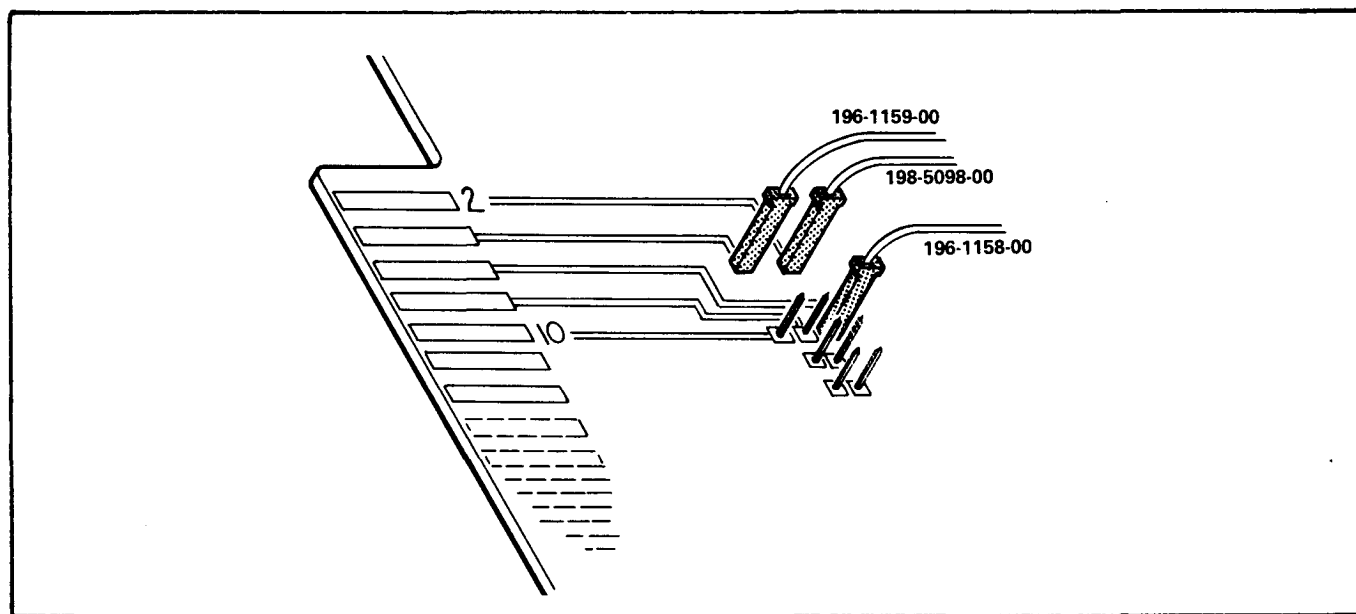

Figure 3.
- 2) Connect the other end of the 196-1158-00 wire to the square pin connected to Pin 6 of the edge connector as shown in Figure 3 below.
- 3) Connect the single-pin-connector end of the 198-5098-00 wire to the square pin connected to Pin 2 of the edge connector as shown in Figure 3.